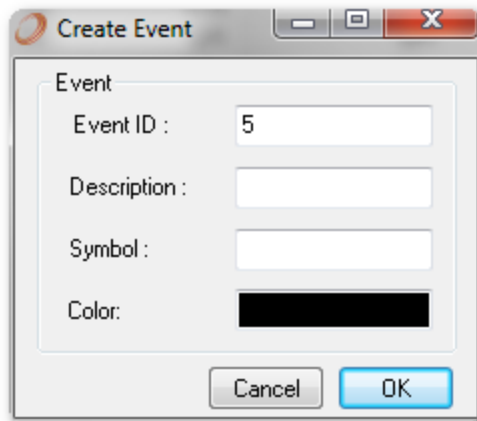

Figure 70: Create Event Dialog Box
4. The **Create Event** dialog box opens to allow you to add an event (*Figure 70*).
The **Create Event** dialog box opens to allow you to edit the event (see *Figure 70*).